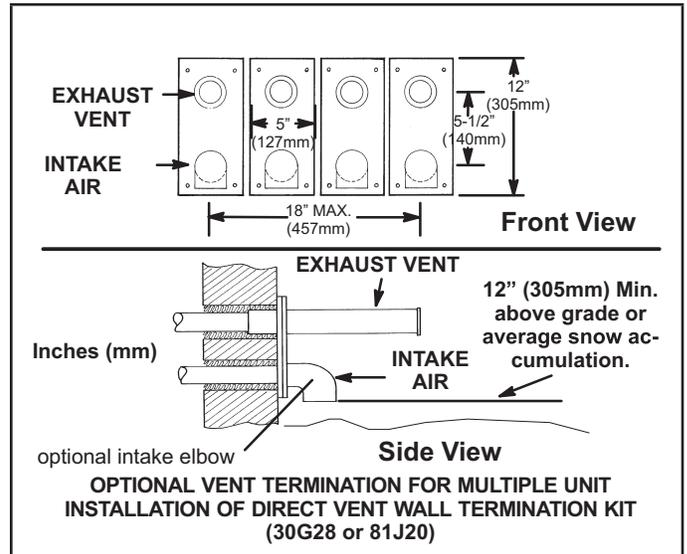

Figure 40
- 8 - A multiple furnace installation may use a group of up to four terminations assembled together horizontally, as shown in "Figure 40".